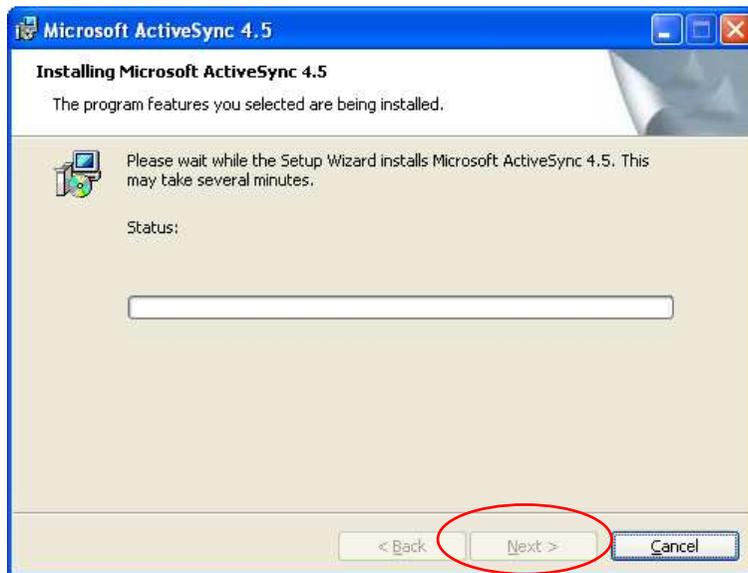

Figure 97:
11. The following screen will appear as the program is installed. When it is finished, enter 'Next' (Figure 97).